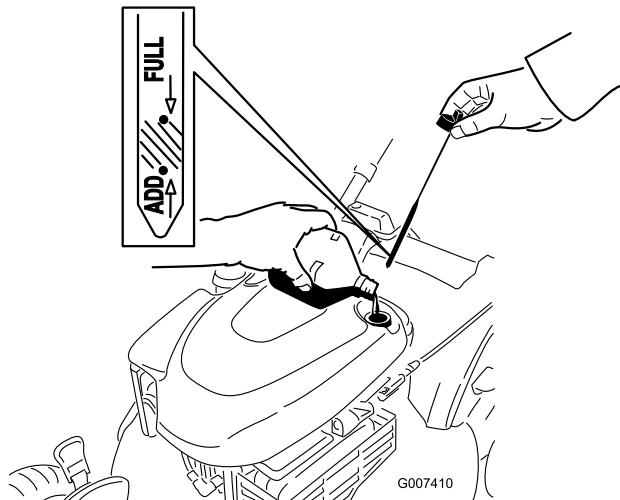

Figure 6
1. Remove the dipstick (Figure 6).
2. Slowly pour oil into the oil fill tube until the oil level reaches the **Full** line on the dipstick (Figure 6). **Do not overfill.** (Max. fill: 20 oz., type: SAE 30 detergent oil with an API service classification of SF, SG, SH, SJ, SL, or higher.)